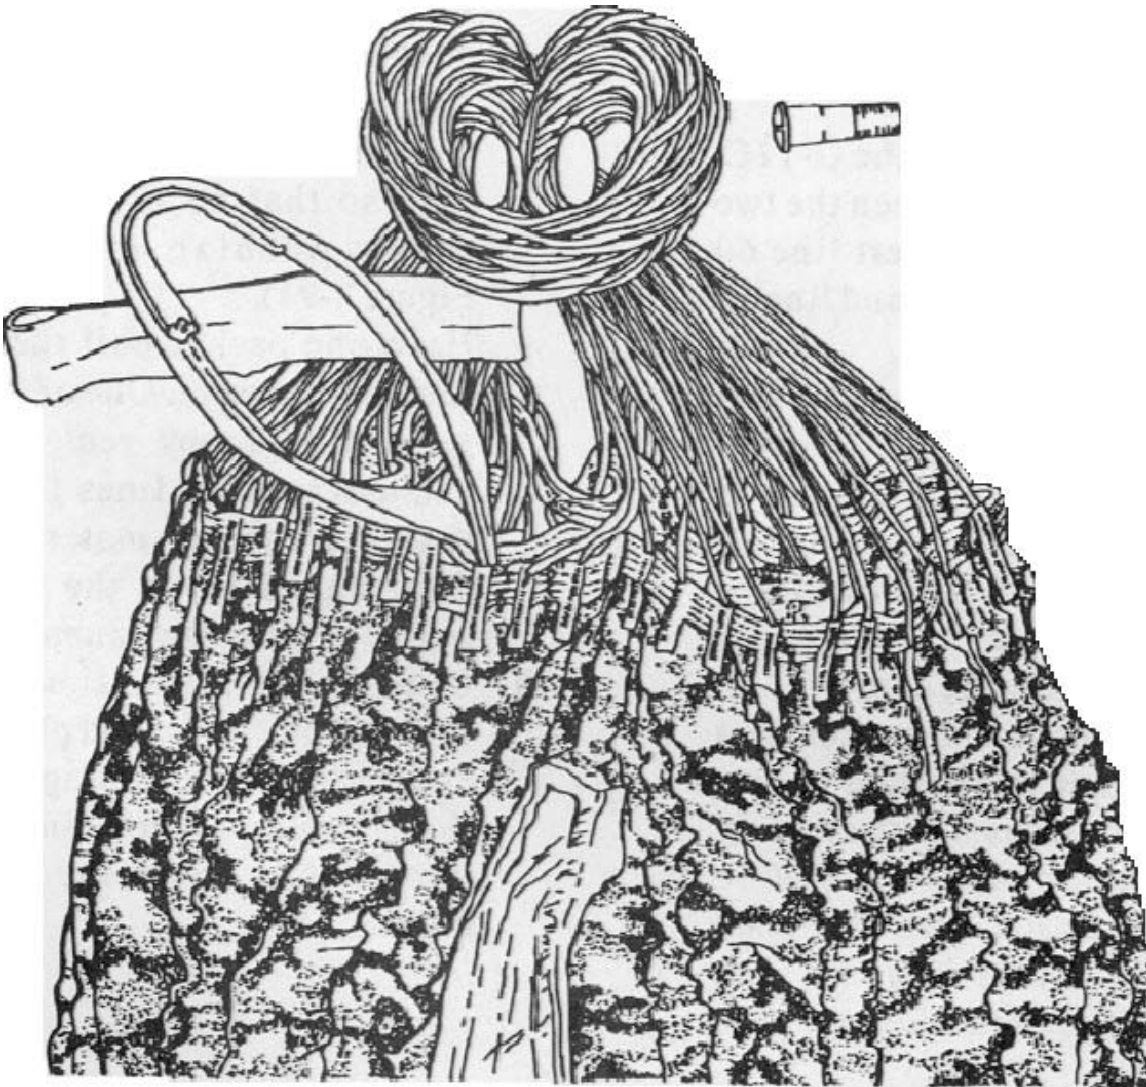

Figure 3-22
- b. Grasp the vent line, with the bridle loop positioned to one side, and place the crew pin shackle over the vent lines. (See Figure 3-22)